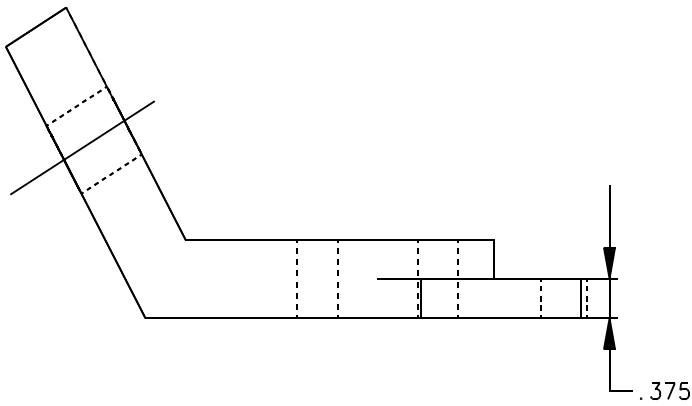

Figure 35
- Figure 35 shows the location of the .375 dimension.